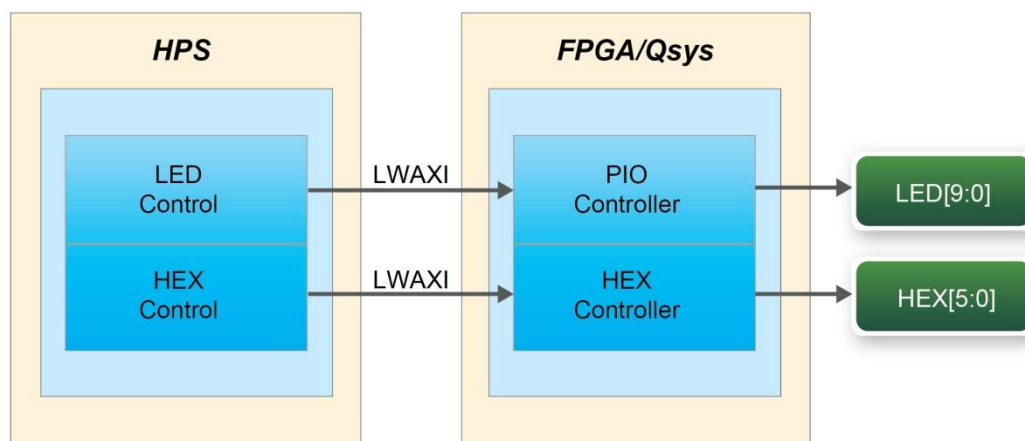

Figure 7-1 FPGA LED and HEX are controlled by HPS
**Figure 7-1** shows the block diagram of this demonstration. The HPS uses Lightweight HPS-to-FPGA AXI Bridge to communicate with FPGA. The hardware in FPGA part is built into